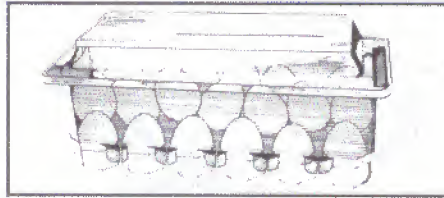

FIGURE 20
**Egg Storage.** A removable take-to-counter egg bucket stores eggs in a see-thru covered container. See Figure 20. To clean, hand wash in warm, soapy water.